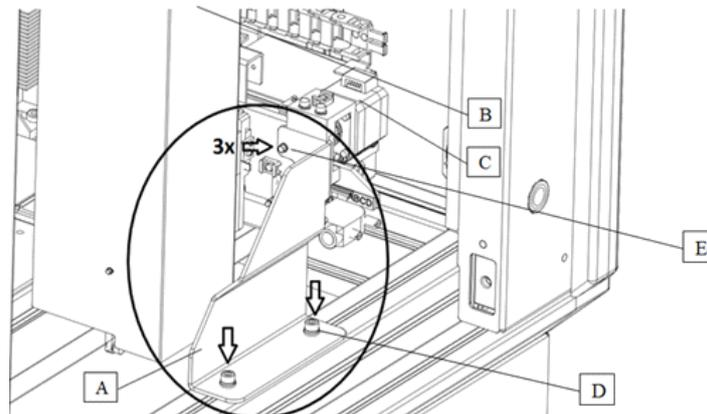

Figure 42 – Mount fixing to frame
Bind the tooth belt fixing (A) to the stepper motor (B) with a red strap (C). (**Figure 42**)